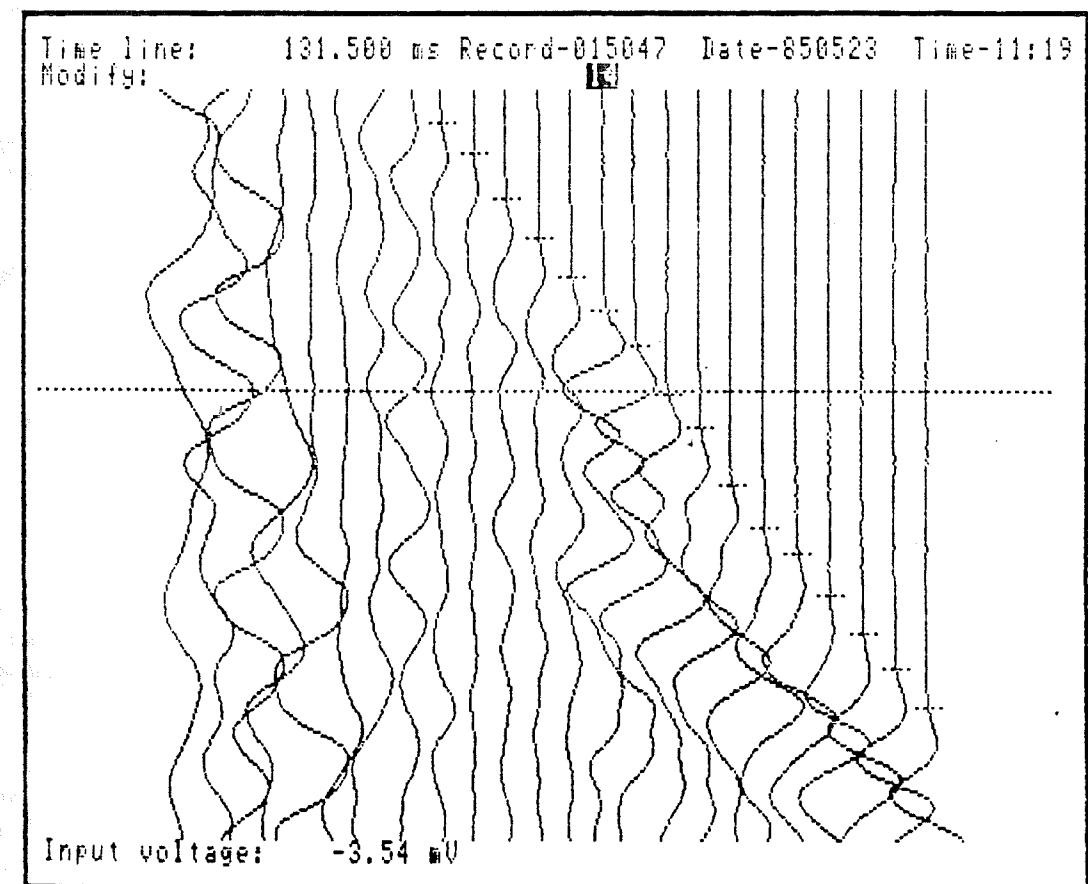

Fig. 1.7.1-1 Amplitude measurement on the screen using the "." function
- 3 You will now see a screen somewhat like in Fig. 1.7.1-1.